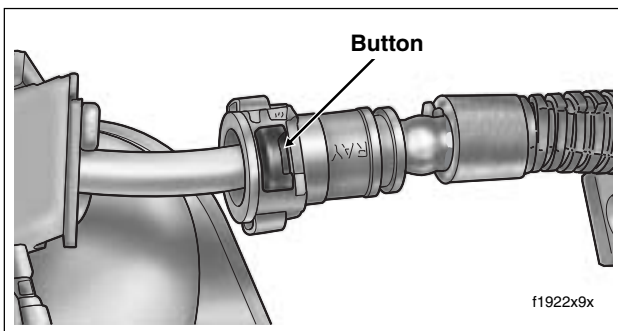

Figure 9-25. Remove Fuel Supply Line From Supply Tube
12. Depress button on inboard side of fuel supply line and remove from supply tube. See Figure 9-25.